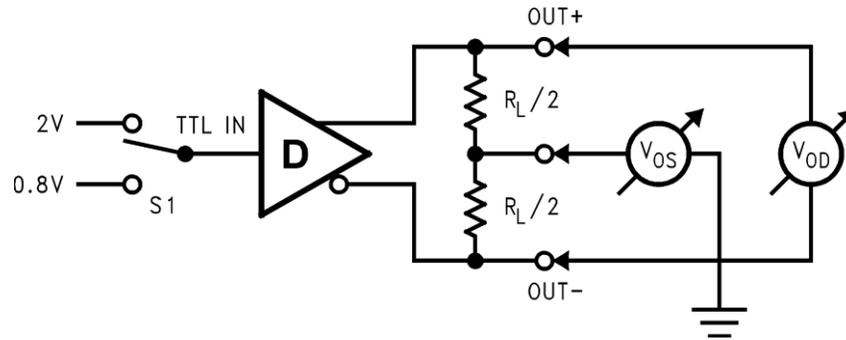
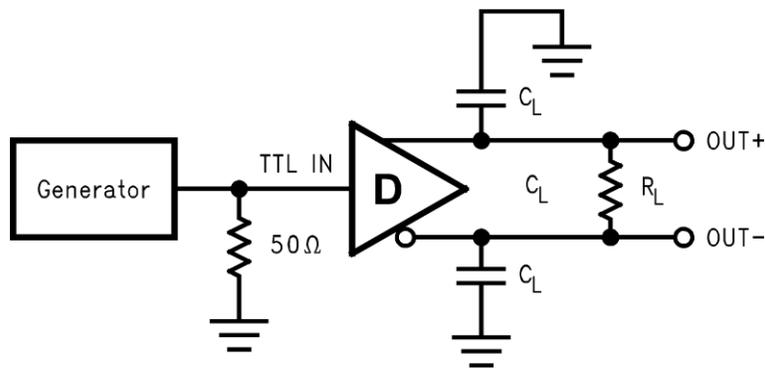

Figure 3. Differential Driver DC Test Circuit
Figure 4. Differential Driver Propagation Delay and Transition Time Test Circuit
3. Figure 3 shows the test circuits used for |V_{OD}| and V_{OS} tests, and Figure 4 shows the test circuits used for switching characteristics.